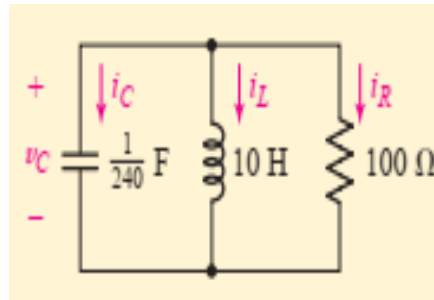

Figure 7.4: Parallel RLC circuit for $t > 0$
Consider the parallel RLC circuit shown in **Error! Reference source not found.** Figure 7.4. Assume initial inductor current and initial capacitor voltage,
1. Calculate the α and ω_0 values and state the response type of circuit shown in Figure 7.4.